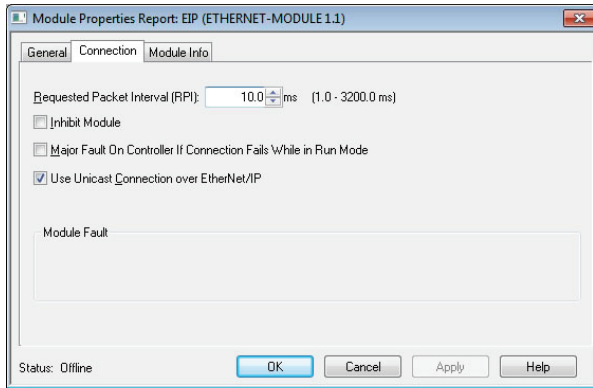

Figure 53: Module Properties Connection Tab
- 5) You should now see the new module (named “ETHERNET-MODULE Interface_Card”) in the 1756-ENBT/A branch under the I/O Configuration in the controller organizer view. Right click on this new module, choose “Properties”, and select the Connection tab. Refer to Figure 53.